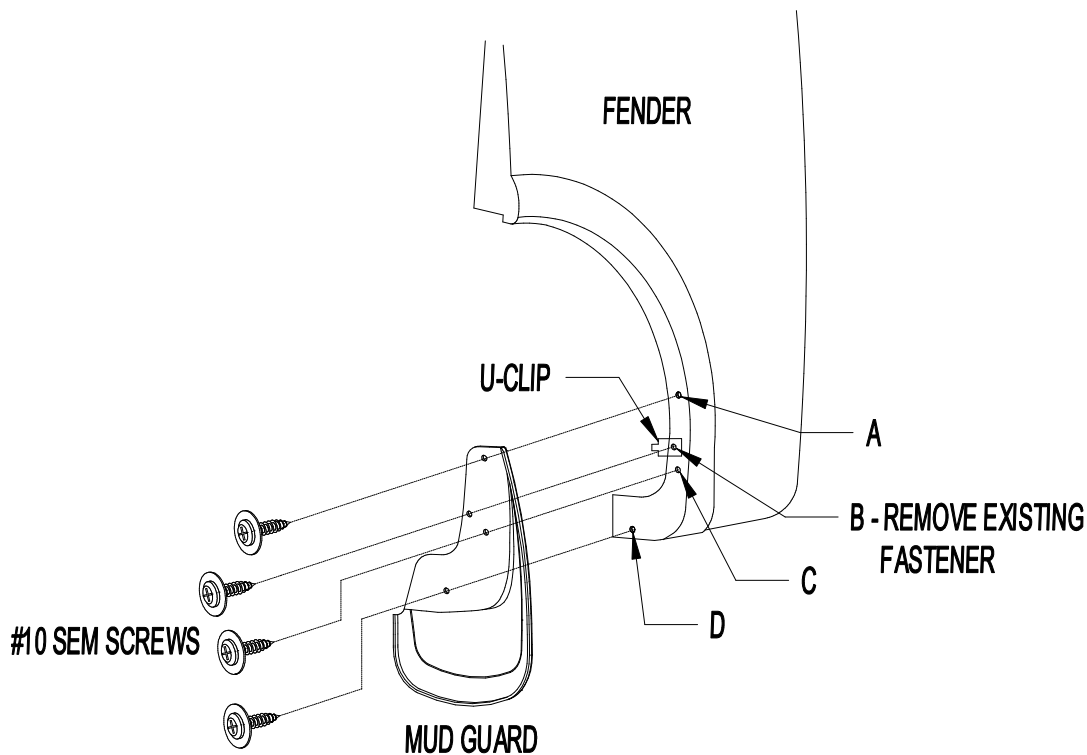

Figure 1
1. Remove existing fastener from location B and install a U-clip (Figure 1).